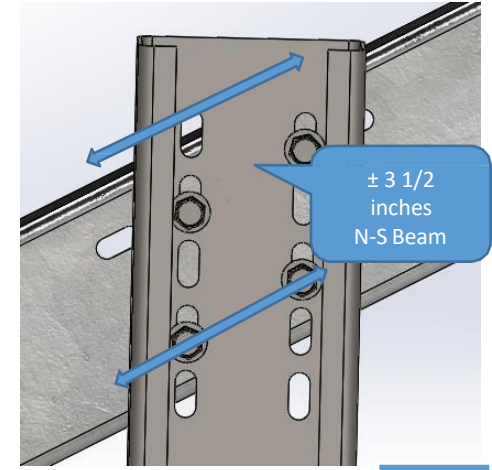

Fig. 7-2
- North – South Beam: ± 3.5 inches (89 mm) (Fig. 7-2)